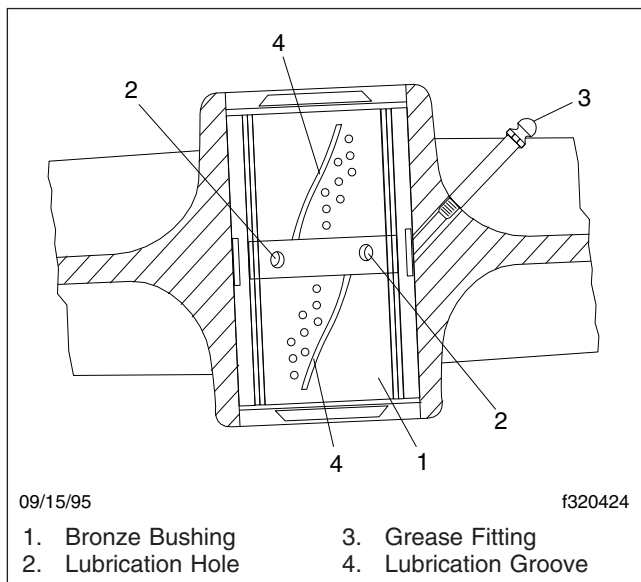

Fig. 7, Hendrickson RT2 and RTE2 Series Bushing Lubrication
3. Using a multipurpose chassis grease, lubricate the bronze, ball-indented bushings in the spring eyes at the grease fitting; see Fig. 7. Continue to lubricate until grease exits both ends of the bushing. If the pin will not accept lubricant, remove the pin and clean the lubrication channels where lubricant may have hardened.